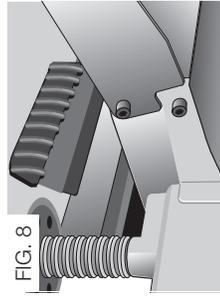

FIG. 8
- Install the smaller screw into the lower threaded hole on the side of the base. Use the T-wrench to tighten that fastener securely (Fig. 8).
- Depress the top pin until it is flush with the base and slide the top hole of the table over the pin and release the pin so they lock together (Fig. 8, 9).